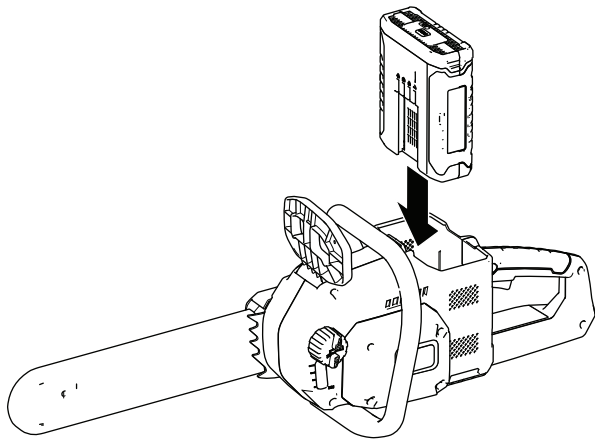

Figure 25
2. Align the tongue of the battery pack with the battery cavity in the chain saw (Figure 25).